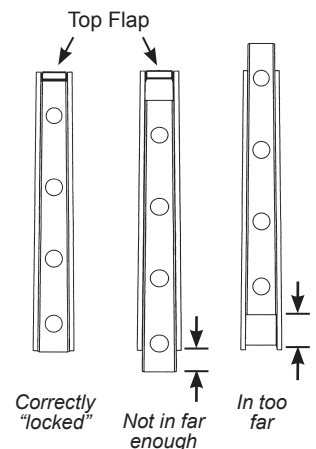

Fig 3
5. Use your fist or palm of your hand to gently pound the back cushion down until the interlocking wedges are "locked" together. You may find that a rubber mallet is helpful for this step, but be sure to protect the fabric with a towel, clean cardboard, or other such material. A standard hammer is not recommended. **Important: Wedges are correctly "locked" when the inner wedge comes into contact with the top flap of the outer wedge, and the bottom edges align, as shown in figure 3. Avoid excessive force or damage to the wedges may occur.**